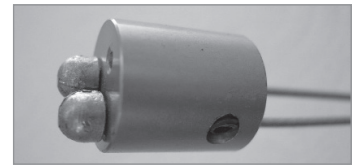

Figure 2
5. Prepare the slider for installation by installing the two road-style brake cables (the "lower cables") into the slider (fig. 2). Be sure the cable ends fit all the way down into the slider counterbores. A snug fit is desirable, but do not force it. Note: Sometimes there is flashing on the cable ends that needs to be filed off for this to be completed.